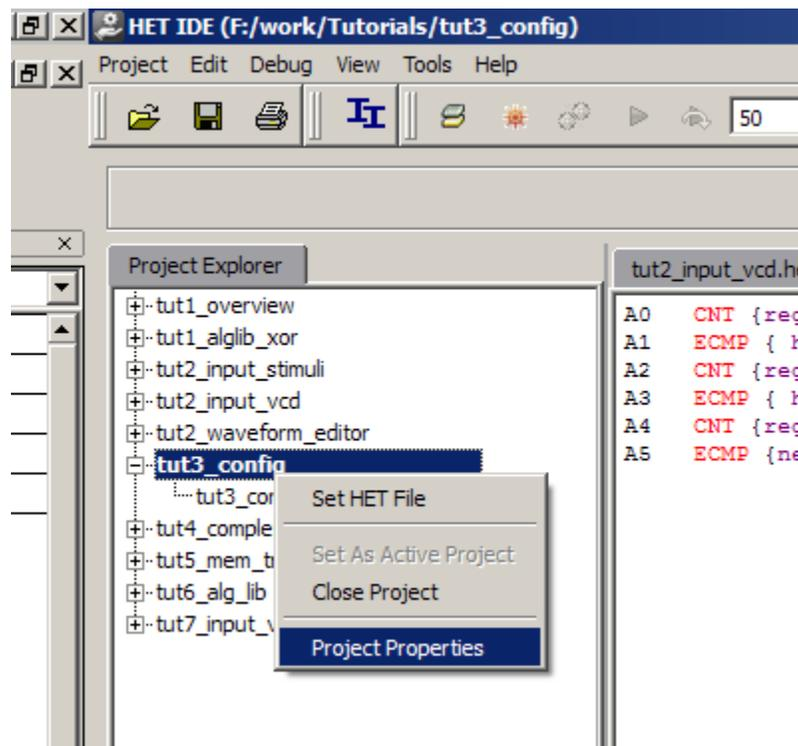

Figure 23. Opening Project Properties Dialog
- (a) Right click on tut3_config in Project explorer and select project properties (see Figure 23).